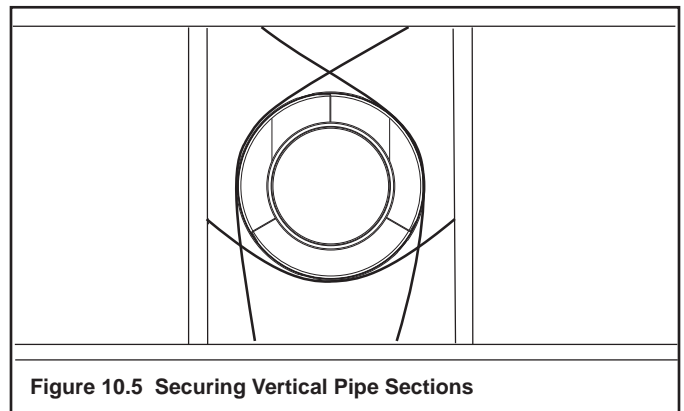

Figure 10.5 Securing Vertical Pipe Sections
- Vent supports or plumbers strap (spaced 120° apart) may be used to support. See figures 10.5 and 10.6.